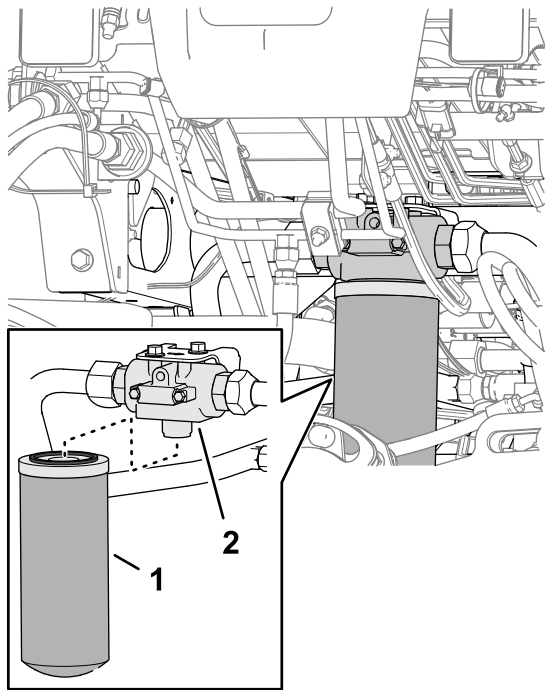

Figure 102
2. At the front of the machine, align a drain pan under the return filter (Figure 102).